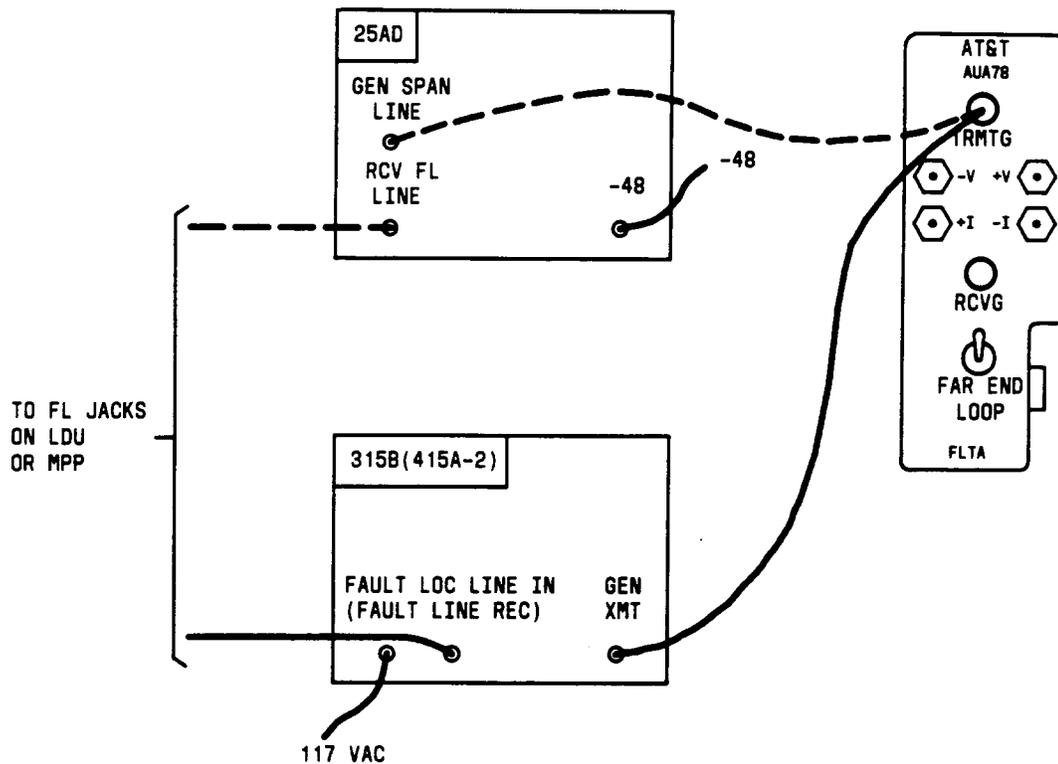

Fig. 3—RT (Remote Terminal) Fault-Locating Configuration
13. Plug power cord into -48V source (FIG. 3).